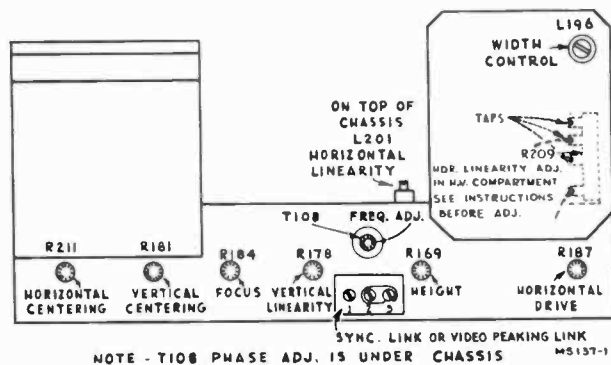

Figure 8—Rear Chassis Adjustments
**FOCUS COIL ADJUSTMENTS**—Turn the centering controls R181 and R211 to mid position. See Figure 8 for location of these rear apron controls.
**WIDTH AND HORIZONTAL LINEARITY ADJUSTMENTS**—Turn the horizontal drive (R187 on rear apron) clockwise as far as possible without causing crowding of the right of the picture. This position provides maximum high voltage to the kinescope second anode. Adjust the width control (L196 on rear chassis) until the picture just fills the mask horizontally (8 $\frac{1}{2}$  inches). Adjust the horizontal linearity control L201 (see Figure 8) until the test pattern is symmetrical left to right. A slight readjustment of the horizontal drive control may be necessary when the linearity control is used. Adjust horizontal centering to align the picture with the mask.
Coils L1 to L9 and L2 to L10 are unusual in that they are wound in figure 8 fashion on fingers protruding from the switch wafers. This winding form produces a relatively non-critical coil since the coupling between turns is minimized. A maximum amount of wire is used for the small inductance which is required, thus permitting greater accuracy in manufacturing.
**R-F Oscillator**—The oscillator line is similar except that trimmer adjustments are provided for each channel and the low frequency coils are not figure 8 windings. For tuning each channel, brass screws are used in close proximity to the high frequency tuning straps L66 to L76, and adjustable brass cores are provided for coils L54 to L62. It is obvious that the high frequency adjustments should be made before each lower frequency one.